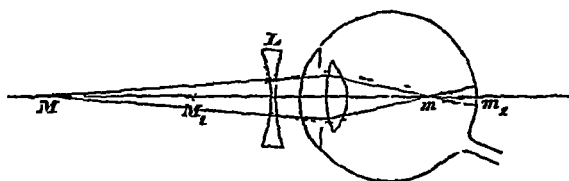

FIG 113
**Short-sight Concave spectacles**—In certain eyes the cornea and the lens are too convex, rays from an object  $M$  (fig 113) come to a focus,  $m$ , too far in front for any possible